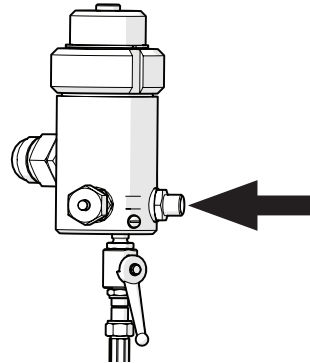

Fig. 9 Connecting spraying hose to high pressure filter
1. Connect the spraying hose to the material outlet on the high pressure filter (see Fig. 9).